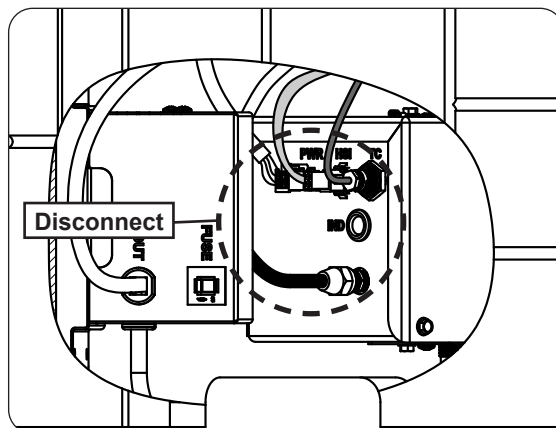

Fig. 26-1 Disconnect pilot line, thermocouple, and hot surface igniter from control box
1. Disconnect the pilot line, thermocouple, and hot surface igniter from the control box (see Fig. 26-1).